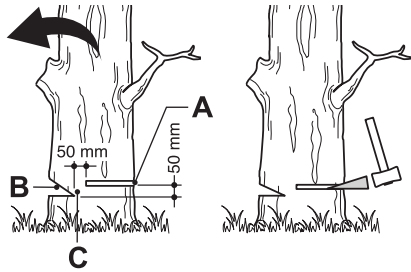

Fig. 29
Make the notch (Fig. 29, B) 1/3 the diameter of the tree, perpendicular to the direction of falls (Fig. 29). Make the lower horizontal notching cut first. This will help to avoid pinching either the saw chain or the guide bar when the second notch is being made.
- > Make the felling back cut (Fig. 29, A) at least 50 mm higher than the horizontal notching cut (Fig. 29). Keep the felling back cut parallel to the horizontal notching cut. Make the felling back cut so enough wood is left to act as a hinge. The hinge (Fig. 29, C) wood keeps the tree from twisting and falling in the wrong direction. Do not cut through the hinge.